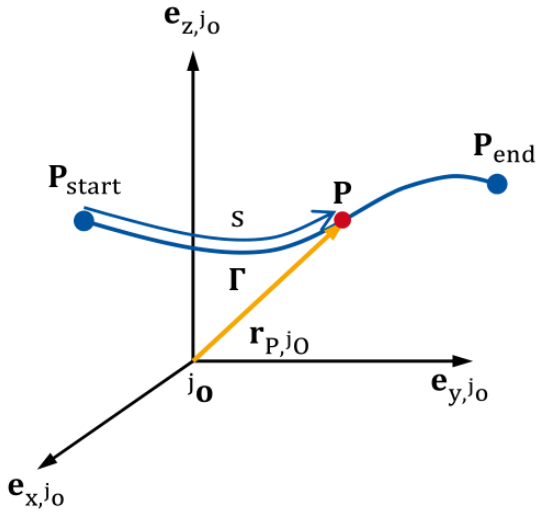

Figure 3.6: Example for parametric representation of path Γ
- Parametric representation of the path Γ in space is a function of a general parameter σ describe the position vector for point \mathbf{P} (Fig. 3.6)